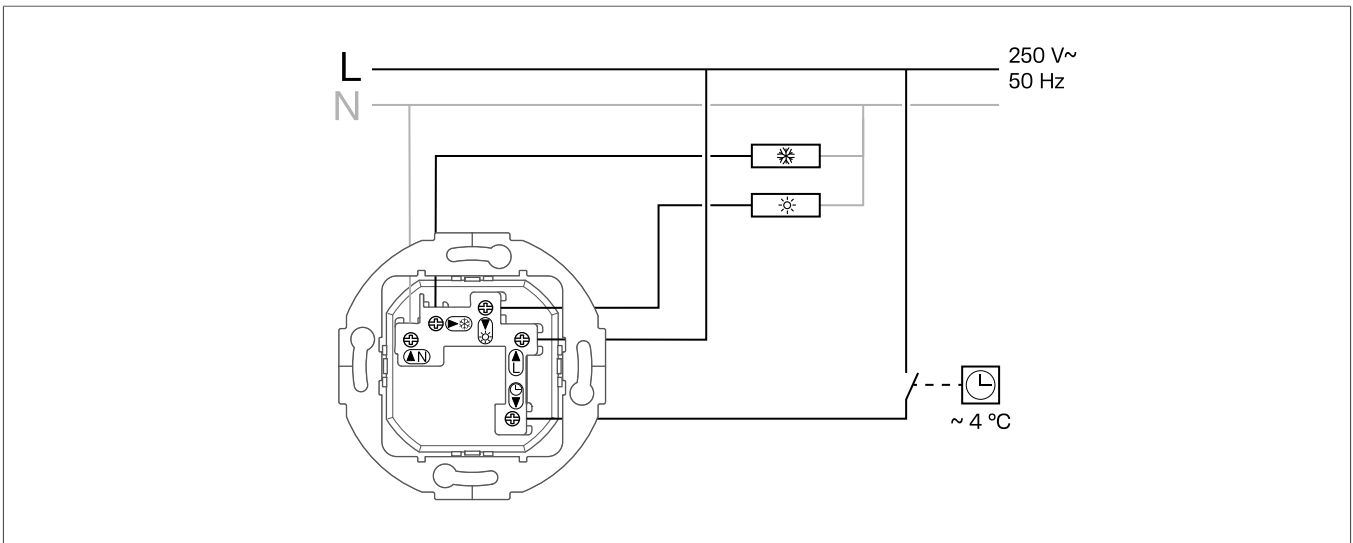
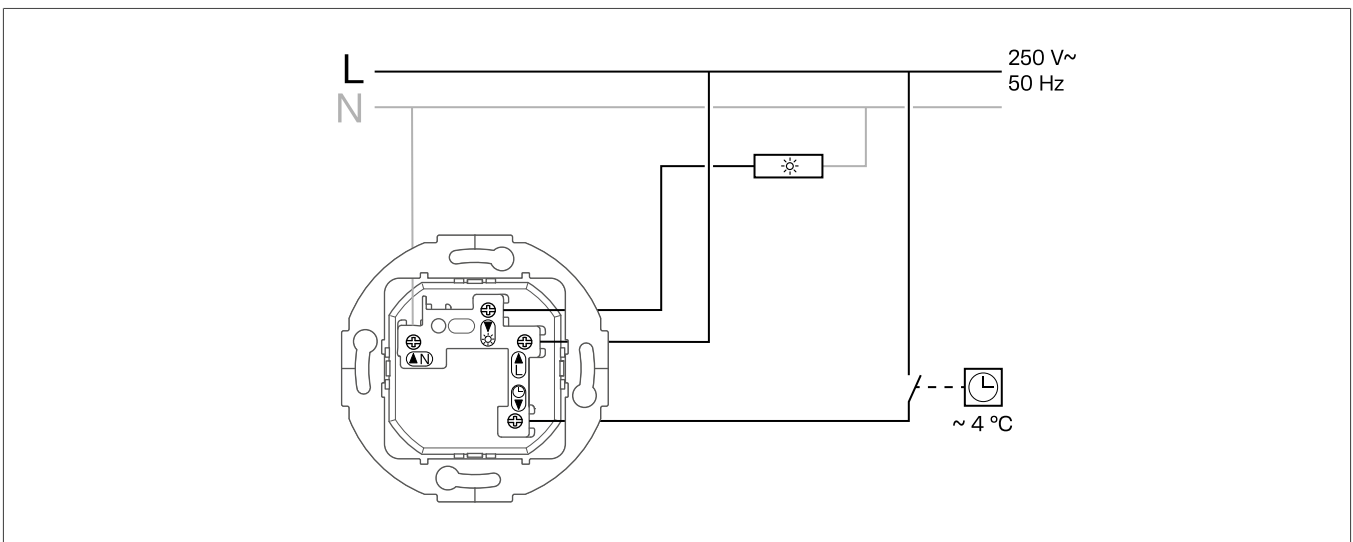

Fig. 4: Connection diagram for room thermostat, change-over contact
Fig. 5: Connection diagram for room thermostat, NC contact
- 1 Wire the controller (1) according to the connection diagram (Fig. 4 or Fig. 5).